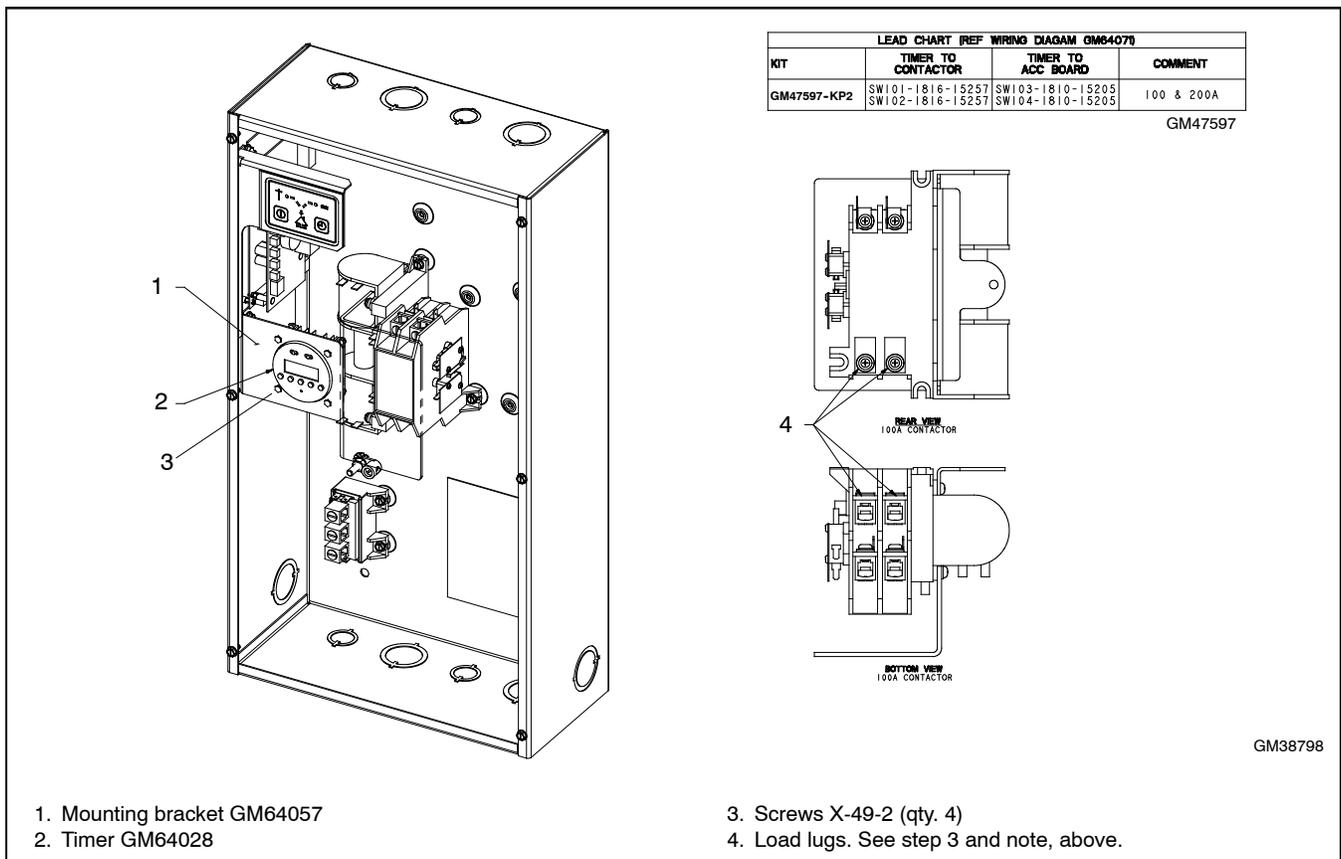
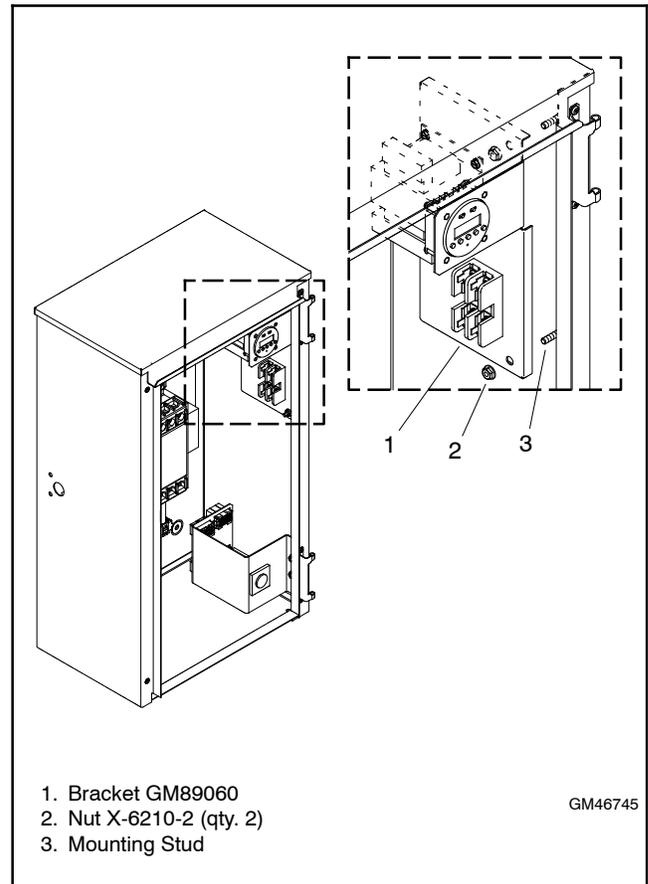

Figure 3 Mounting, 100-200 Amp Model RDT
Figure 5 Mounting, Models KSS-J with Decision-Maker® MPAC 750
Figure 1 shows the programmable exerciser timer. See Figure 3 through Figure 5 for illustrations of installed exerciser timers.
See Figure 3.
1. Install timer mounting bracket GM64057 over the controller bracket as shown in Figure 3. Use the existing controller bracket nuts to secure the timer mounting bracket to the bottom 2 studs.
Note: For 100 Amp models: Insert the lead ring terminals through the slot under the bus and under the flat washer on the load lug. See Figure 3.
1. Align the mounting holes on the timer bracket GM89060 with the two mounting studs on the inside of the transfer switch box. See Figure 5.
1. Secure the timer kit to the studs with the two X-6210-2 nuts provided with the kit. See Figure 5.